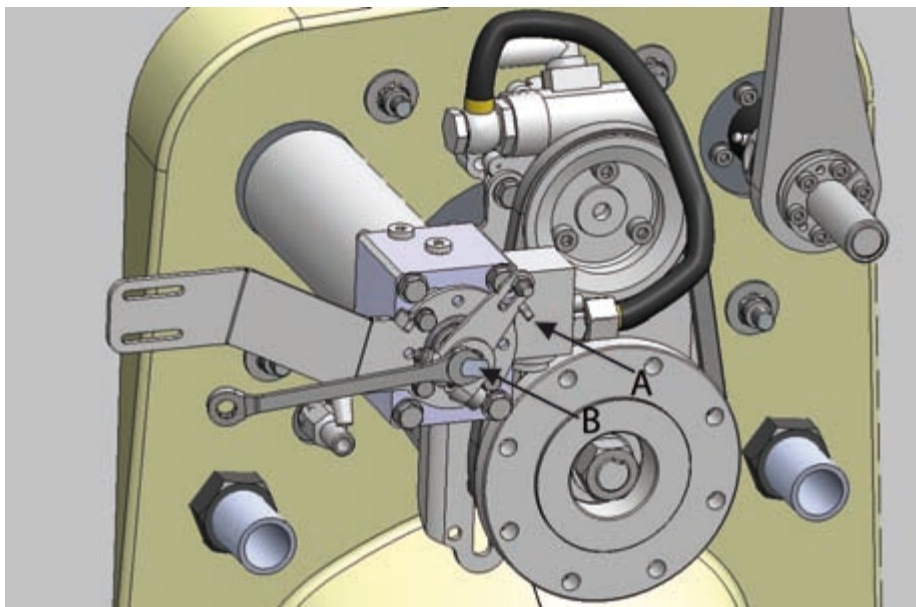

Figure 69. Operating lever and limiter
3. Place the lever against the limiter on the shaft (figure 69, point A).
5. Using a wrench, turn the operating shaft (figure 69, point B) 13 mm (0.4") clockwise so that the reversing deflector is down, blocking the jet flow.